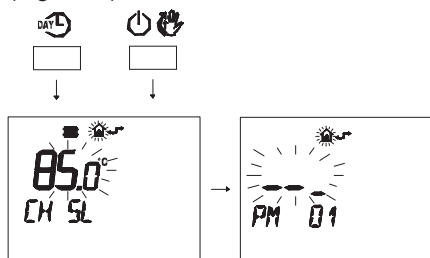

Fig. 8.27
- Press buttons **DAY** and **ON/OFF** at the same time to enter transparent programming (Fig. 8.27).